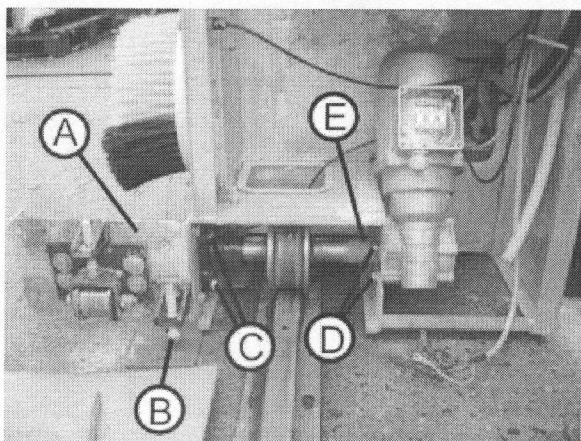
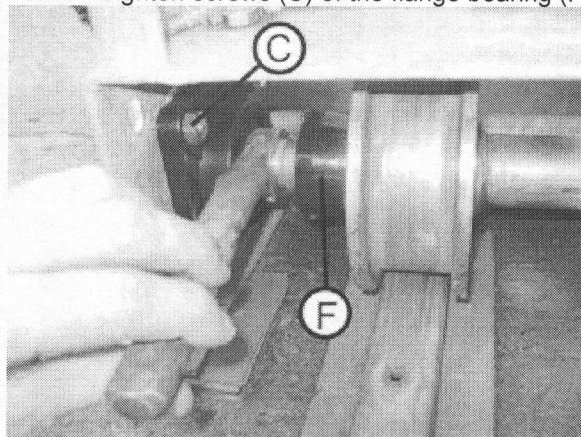

Fig. 010
Fig. 013
4. Mount lifting attachment (A) on movable foot (Fig. 010).
5. Raise portal with screw (B), support movable foot and loosen screw (B) again
6. Loosen retaining screws from flange bearing (C) and from geared motor (D) (Fig. 010).
7. Remove complete drive unit with the help of service recess (E) from drive shaft (Fig. 010).
15. Tighten screws (C) of the flange bearing (Fig. 013).
16. Grip clamping ring and tighten safety screw (Fig. 013).
17. Grease rubber lip of cover (F). Then, slide the cover onto the flange bearing. If the cover is not greased, when driving the portal, you will hear squeaking noises.
18. Raise portal with screw (B), remove support material and lower portal again (Fig. 010).
4. Mount lifting attachment (O) on movable foot (Fig. 010).